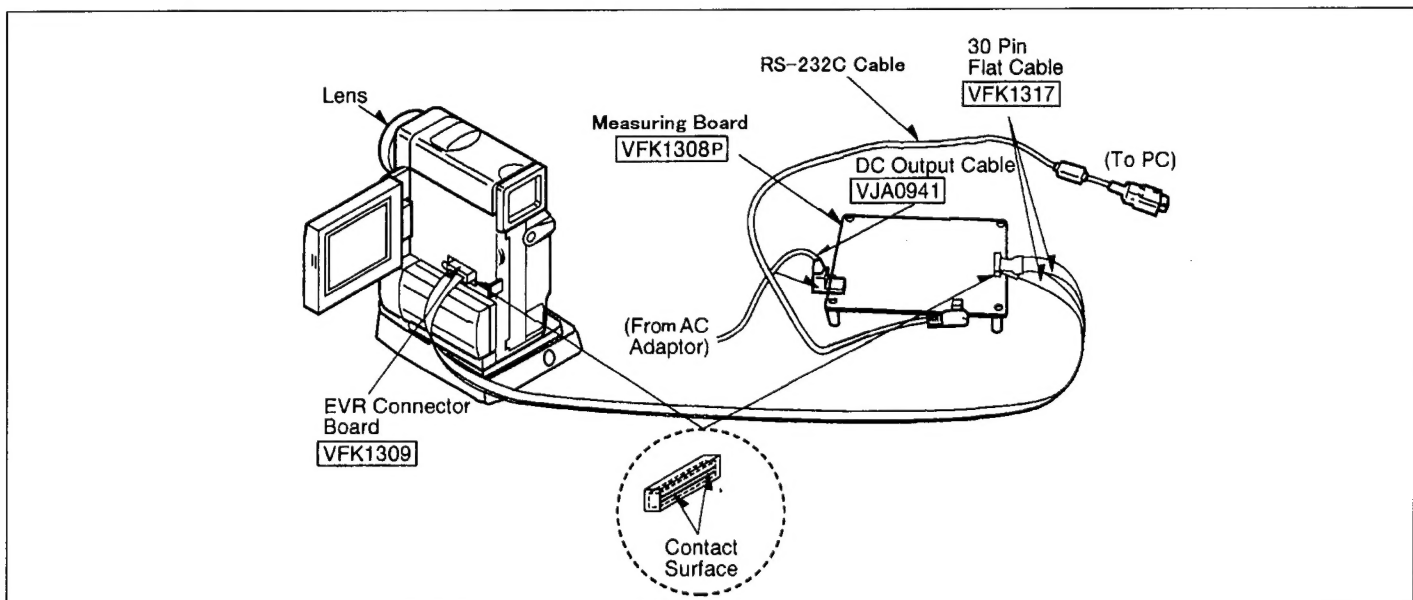

Fig. E1
5. Connect an ordinary 9 pin RS-232C cable between the Measuring Board and RS232C connector on Personal Computer as shown in Figure E1.